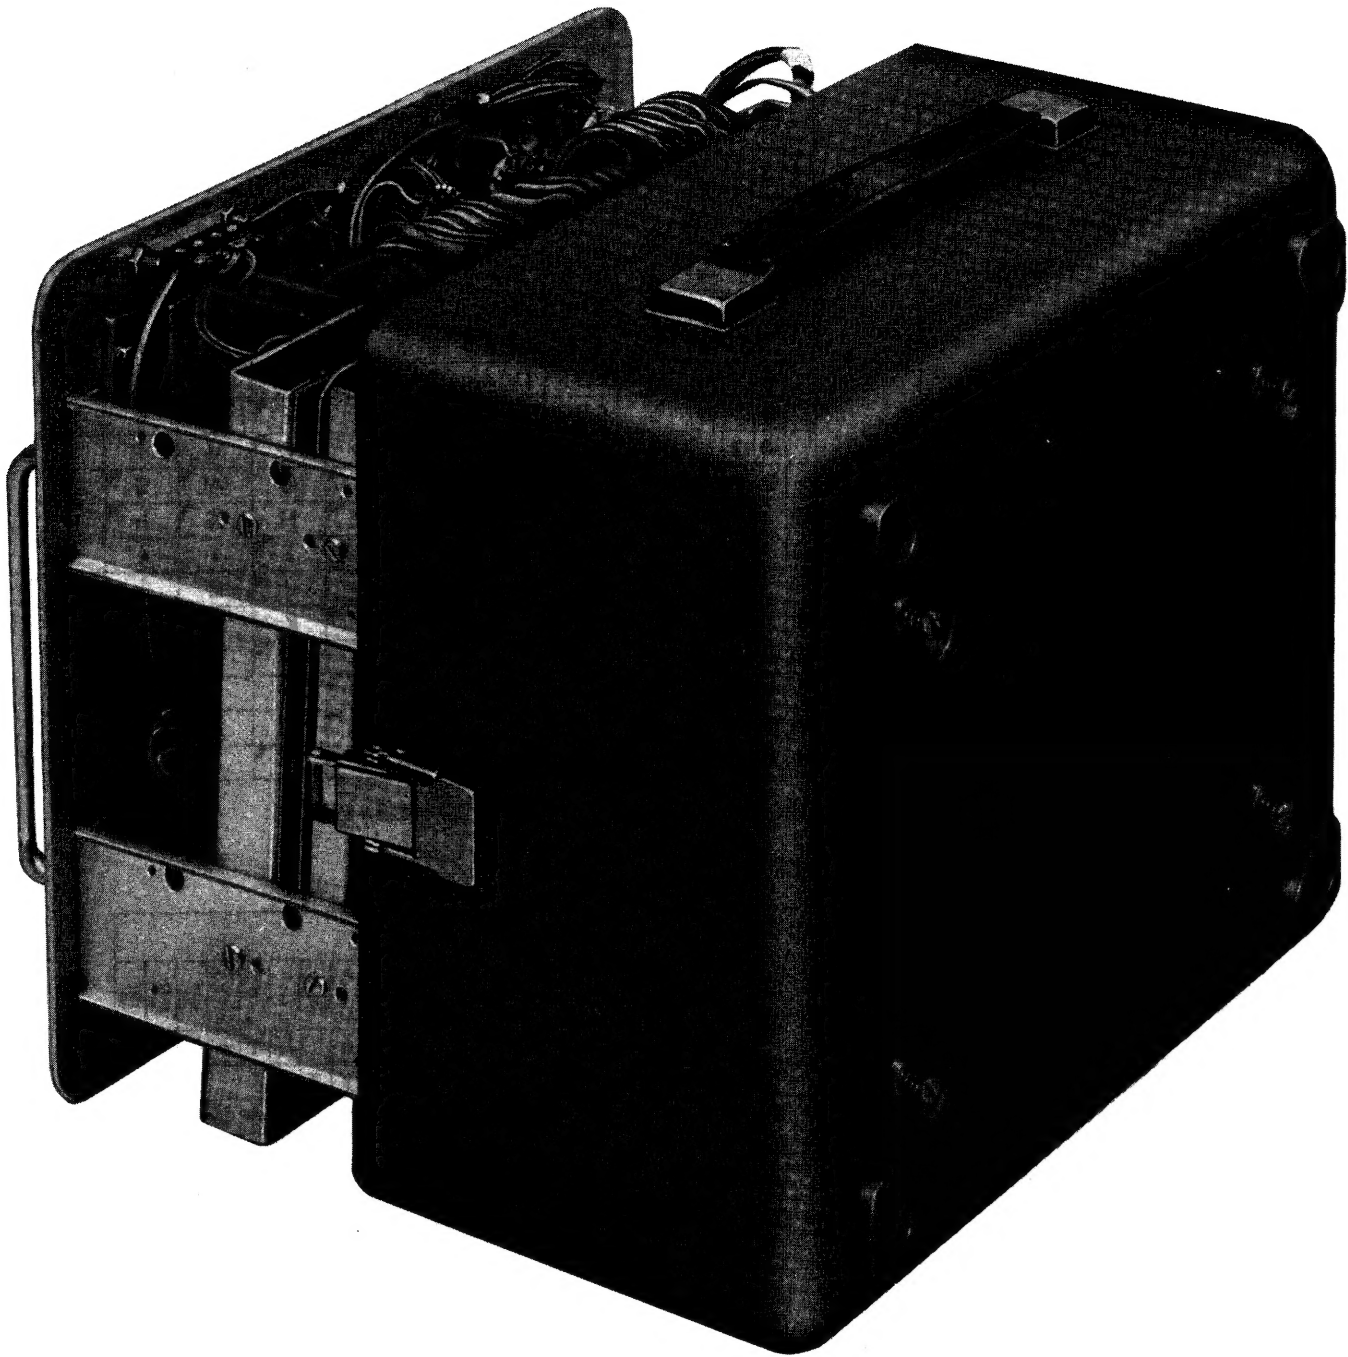
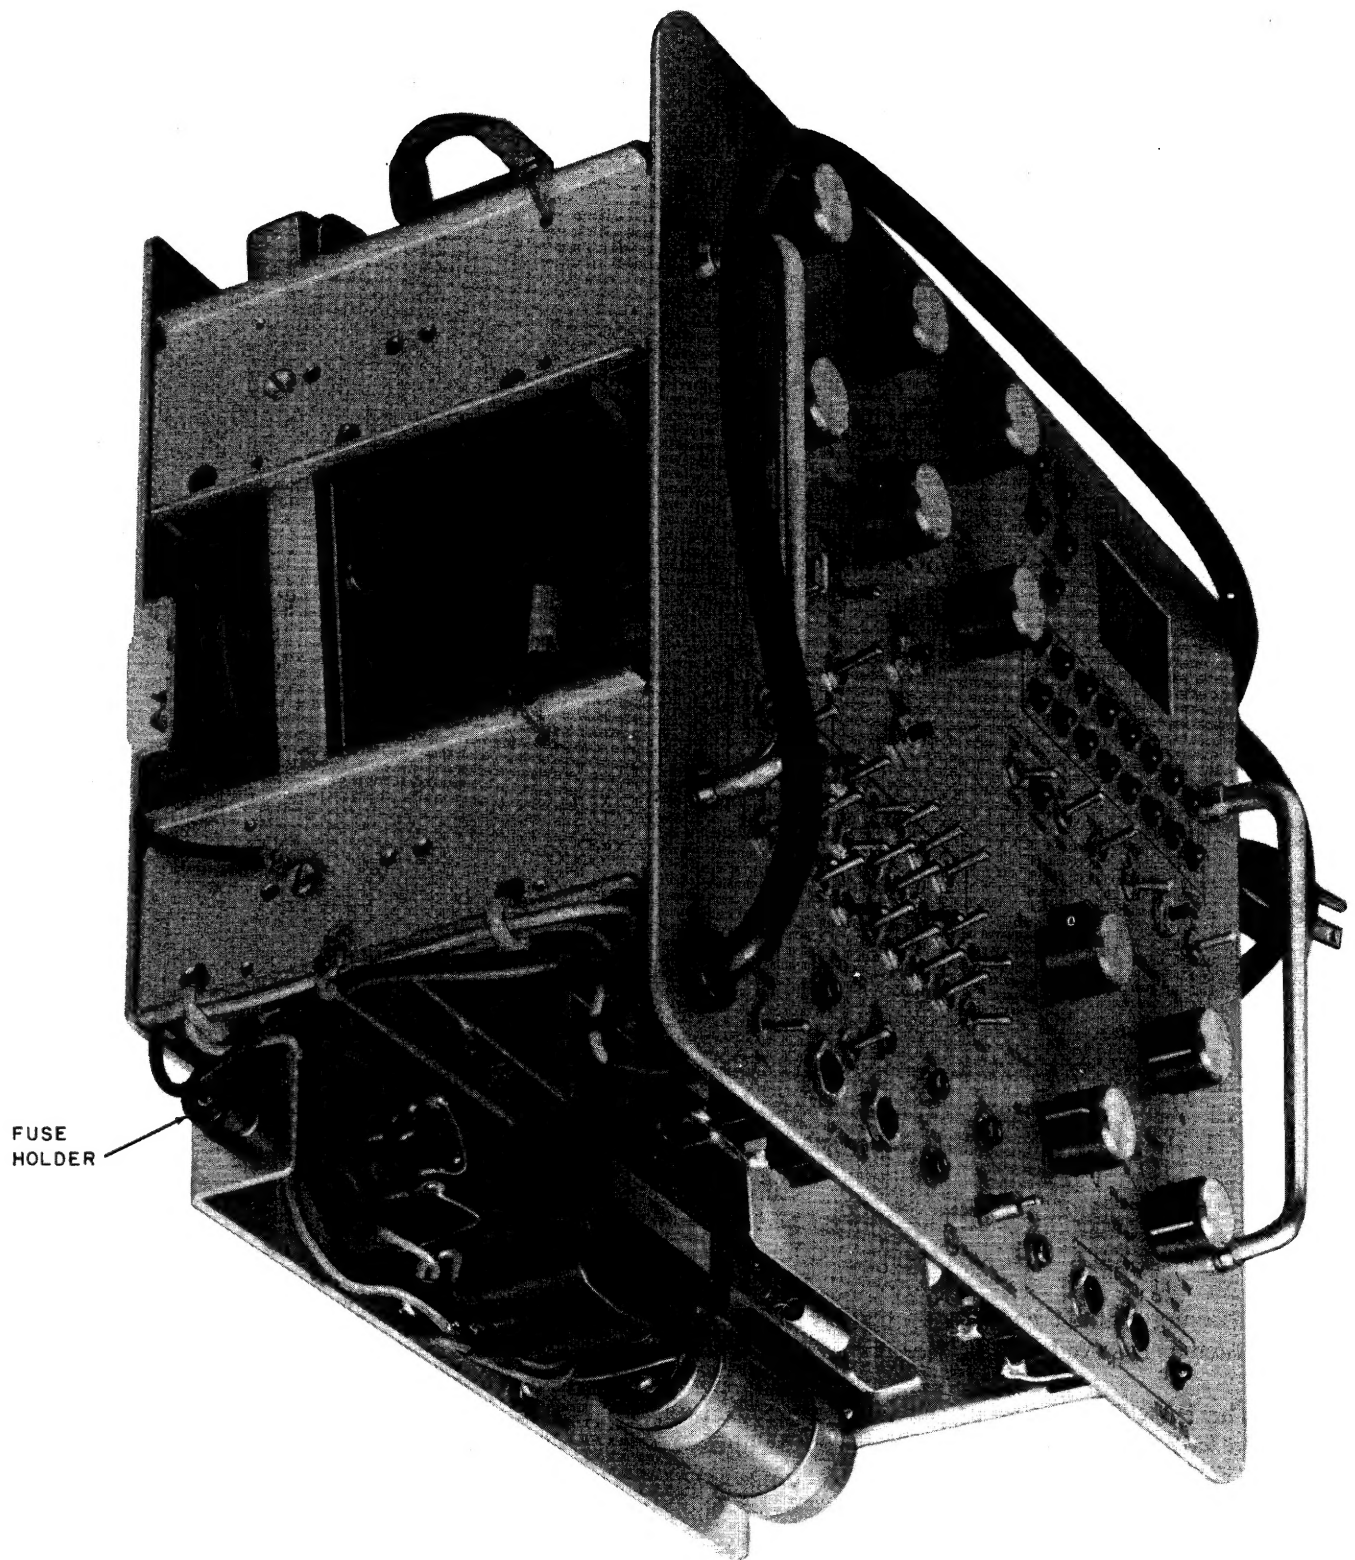

Fig. 5—911NA DTS—Rear Cover Removal
Fig. 6—911NA DTS—Rear Cover Removed
2.04 The DTS is powered by a self-contained power supply which draws about 40 watts of 105- to 135-volt 50- to 60-Hz commercial power. The power supply is fused with a 1/2-amp fuse that is accessed by turning the four quick-release screws shown in Fig. 5 counterclockwise and removing the DTS from the case. The location of the fuse holder is shown in Fig. 6. Two spare fuses (not shown) are mounted on the rear of the unit.